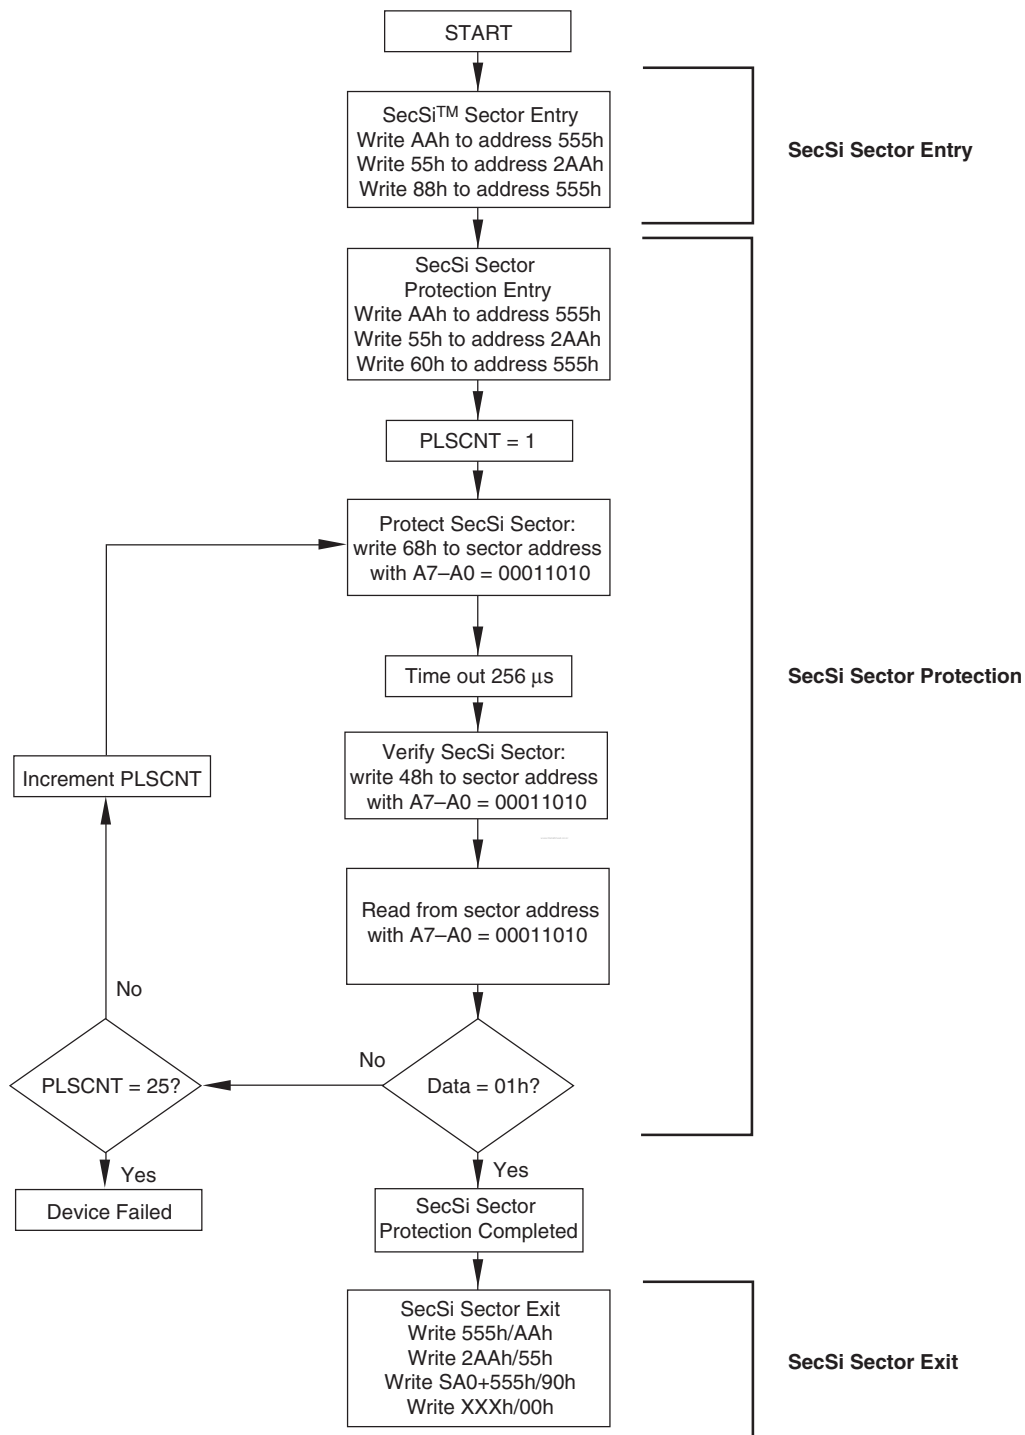

Figure 3. PDL127H SecSi Sector Protection Algorithm
- Follow the in-system sector protect algorithm as shown in Figure 3. This allows in-system protection of the SecSi Sector without raising any device pin to a high voltage. Note that this method is only applicable to the SecSi Sector.